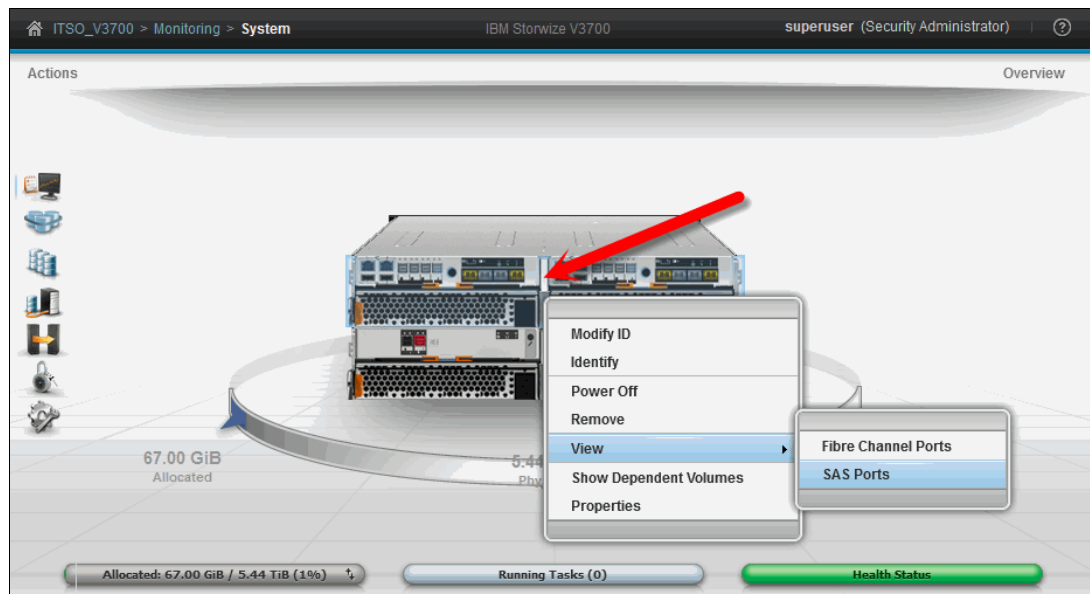

Figure 6-9 Identifying Storwize V3700 SAS port WWPN
- c. Select **View** → **SAS Ports**, as shown in Figure 6-9.